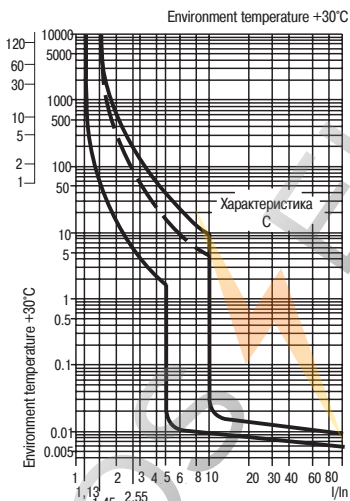

Fig. 1 C characteristics
3.2 Time-current operating characteristics of MCB tripping at overcurrent (control setting temperature – 30°C) are summarized in Table 2 and Figures 1, 2.
In Fig. 1, 2: dashed line – upper limit of time-current characteristic for automated circuit breakers with rated current  $I_n < 32 A$